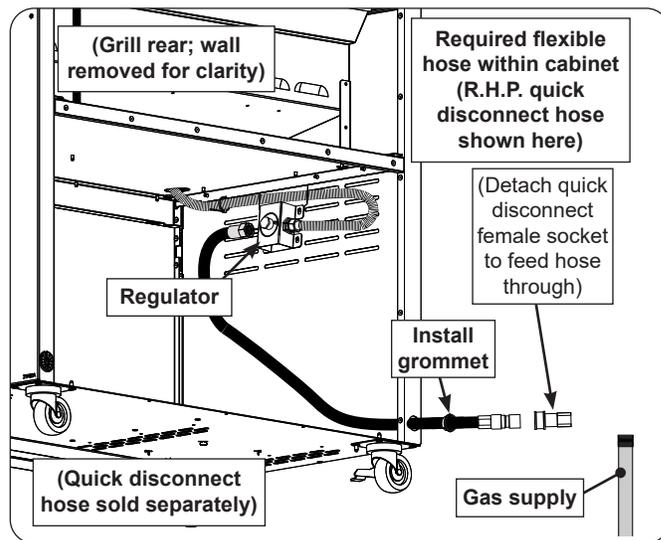
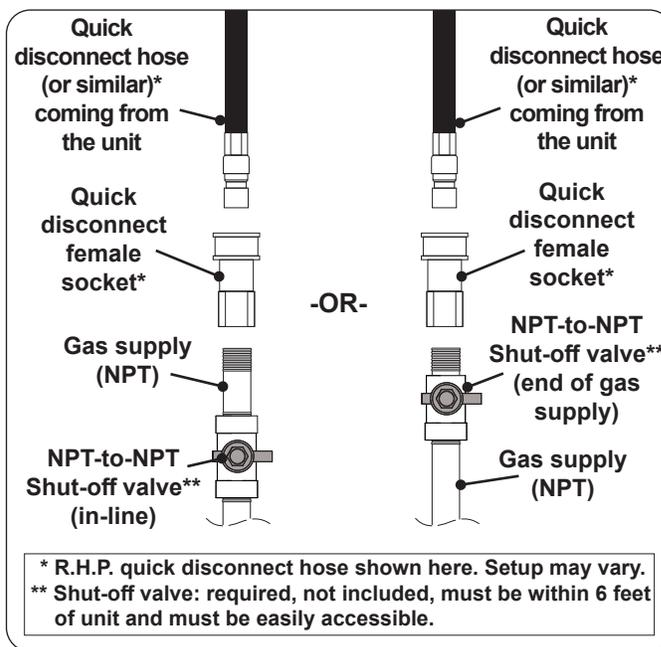

Fig. 12-1 Flexible hose assembly detail
Fig. 12-2 Connecting to a gas line
- For natural gas models, a quick disconnect hose is available for purchase and must connect to the regulator inside the cabinet (see Fig. 12-1 and Fig. 12-2). For household propane, an appropriate, C.S.A. approved, flexible hose or similar **MUST** be purchased to route from the gas line to the regulator inside the cabinet (see Fig. 12-1 and Fig. 12-2). The R.H.P. quick disconnect hose is recommended, and is discussed and illustrated here. See PARTS LIST and contact your dealer for ordering information. (If your setup varies from what is shown here, **observe the National Fuel Gas Code and all local codes.**)
2. Install a quick disconnect hose or similar (purchased separately) to the regulator inside the cabinet. (An R.H.P. quick disconnect hose is recommended - see third bullet above.) Use a pipe joint compound resistant to all gasses on all NPT pipe fittings **except flare fittings**. Reference Fig. 12-1 and Fig. 12-2. Then proceed to step 3.
3. Install the included open-hole grommet to the hole in the rear bottom left of the cabinet, then route the quick disconnect hose (or similar) out of the hole, and to the gas supply (see Fig. 12-2).
Connect the quick disconnect female socket to the shut-off valve OR gas supply (NPT) using a pipe joint compound resistant to all gasses (see Fig. 12-1). Tighten securely. Re-attach the hose to the disconnect female socket.